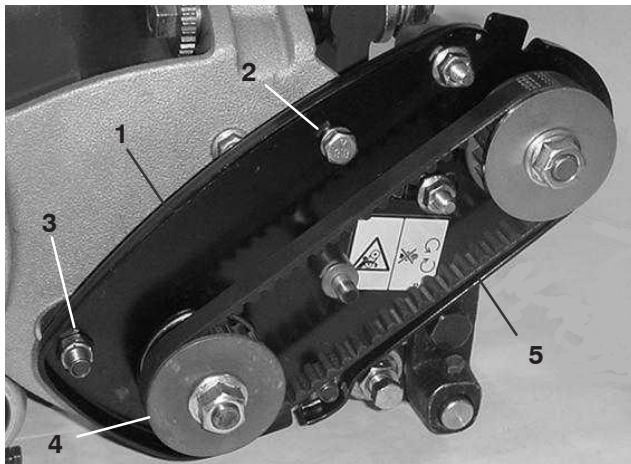

Figure 1
5. Block the reel with a piece of wood to prevent it from turning. Remove the flange nut securing the drive pulley to the reel shaft (Fig. 1). Remove the pulley from the shaft. Remove the woodruff key and the spacer from the reel shaft.
6. Loosen and remove the two locknuts, capscrew and lockwasher securing the reel drive plate assembly to the left side of the cutting unit (Fig. 1). Remove the assembly from cutting unit sideplate. Remove the spacer from behind the reel drive plate.
- 23.** Reinstall the reel drive belt to the pulley and drive assembly (Fig. 1). Adjust the drive belt tension and install the belt cover. Refer to the Operator's Manual for the adjustment procedure.